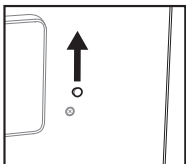

Figure 1
1. Remove the Override key cover (Figure 1).